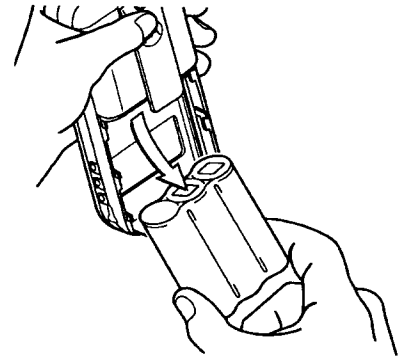

Figure 1-3. Remove Battery
3. To remove battery, lift from bottom end, and remove from radio housing (Figure 1-3).